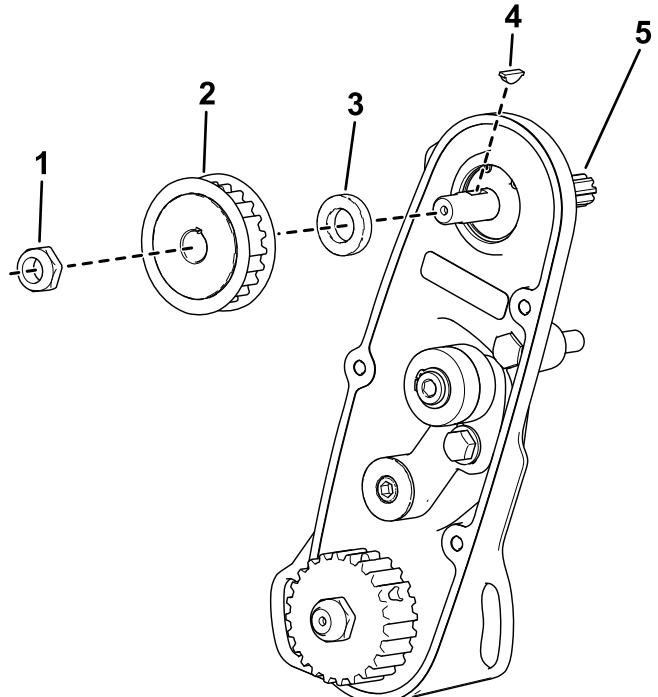

Figure 5
G. Remove the existing reel driveshaft (Figure 5).